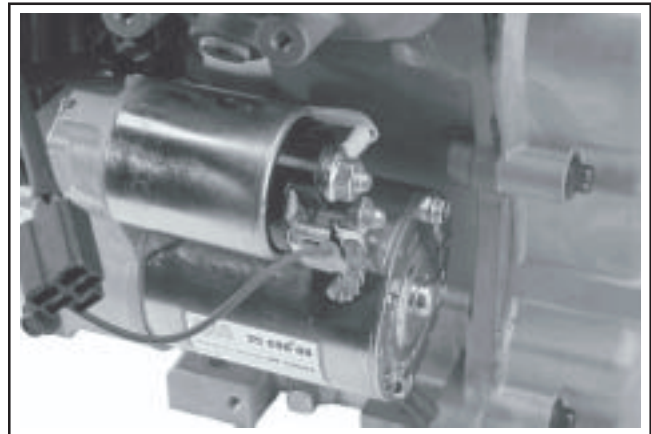

Figure 11-77. Connecting Starter Leads to Starter.
3. Attach the leads to the appropriate starter solenoid terminals. See Figure 11-77.